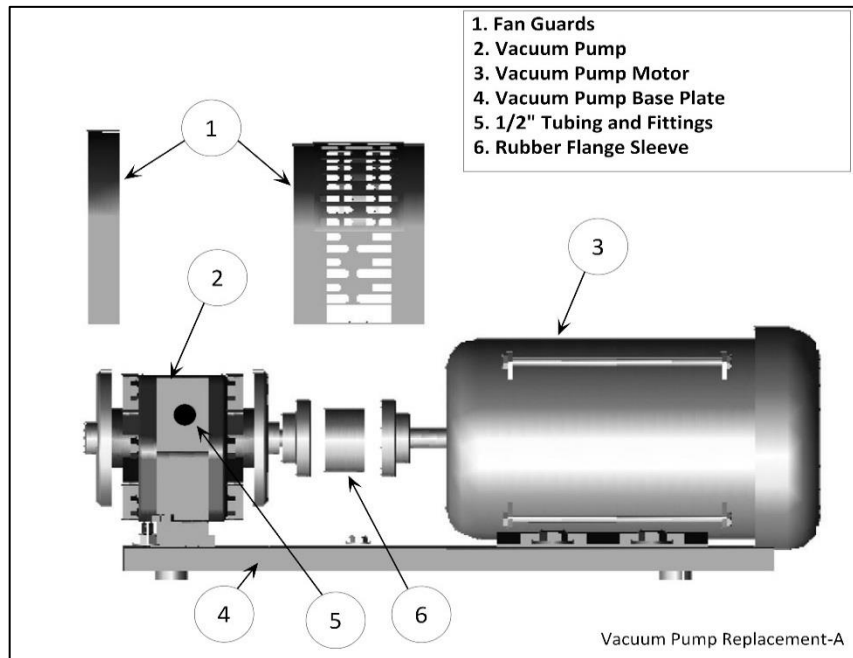

Figure 9-14: Vacuum Pump Components
- See Figures 9-14 & 9-15.
- **See Figures 9-14 & 9-15.**